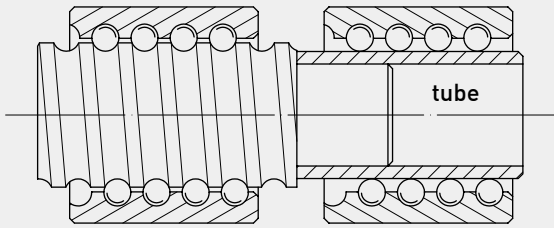

Fig 4.9 The method of separating the nut from the screw spindle
- (10) Excessive preload increases the friction torque and generates heat which reduces the life expectancy. But insufficient preload reduces stiffness and increases the possibility of lost motion. It is recommended that the maximum preload used for CNC machine tools should not exceed 8% of the basic dynamic load C.
- (11) When the nut needs to be disassembled from/assembled to the screw spindle, a tube with an outer dia. 0.2 to 0.4 mm less than the root diameter (ref. M37) of the balltracks should be used to release/connect the nut to/from the screw spindle via one end of the screw spindle shown in Fig. 4.9.